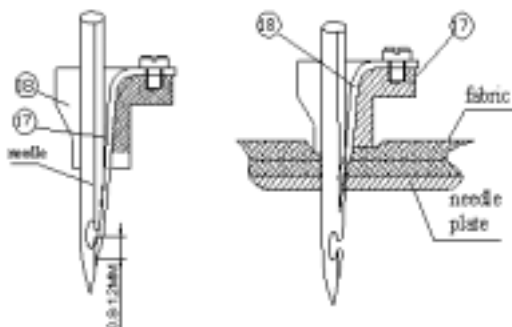

FIG.7
Take the fabric clip (17) off the internal bar and the needle off the needle bar. Choose the appropriate gauge of the needle and the corresponding fabric clip. For assembly use a new tongue (18) and insert it in the fabric clip. Then install a new needle of matching gauge into the needle guide. FIG. 7.
The tongue should be placed in the longest groove of the needle and then fixed with the clamping screw (19) in such a way that the tip exerts a slight pressure on the needle. FIG.7 After tightening the clamping screw of the tongue, checks that the fabric clip is positioned straight and runs smoothly along the needle.